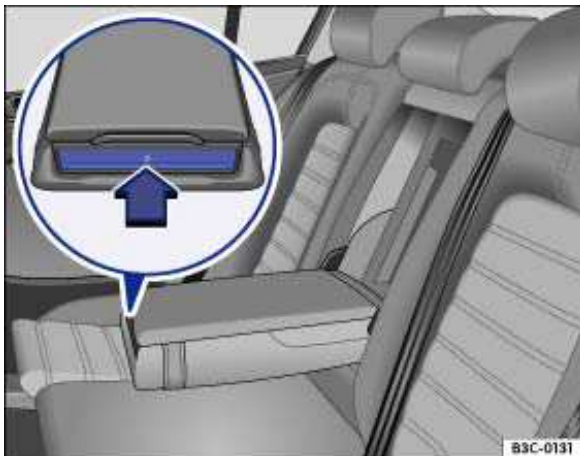

Fig. 107 In the rear center armrest: opening the cup holders.
- Press on the front of the center armrest in the direction of the arrow ⇒ fig. 107. The cup holder opens.